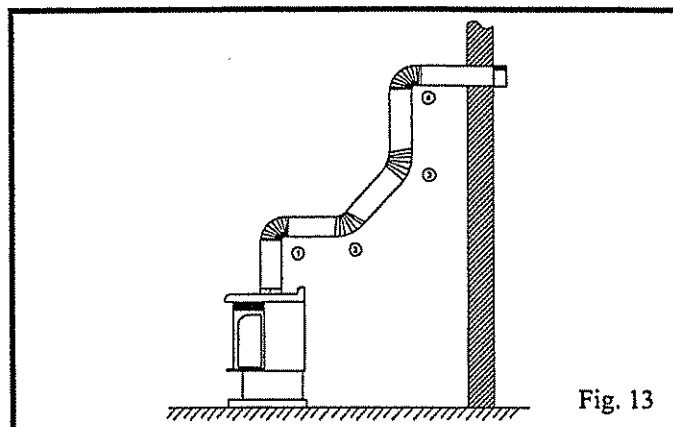
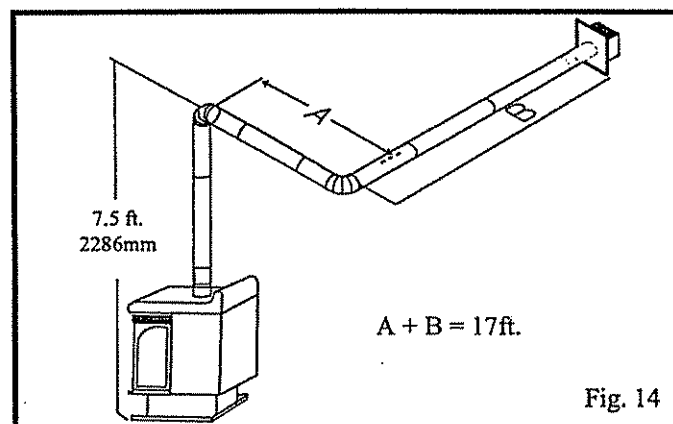
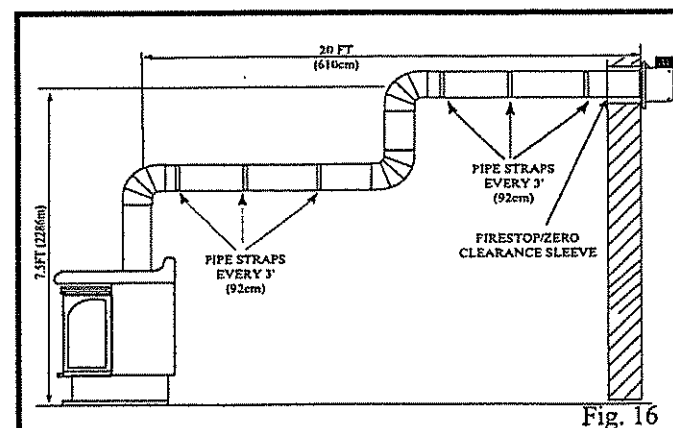

Fig. 13
Fig. 14
Fig. 16
- If a 90 degree elbow is used in the horizontal vent run (level height maintained) the maximum horizontal vent length is reduced by 36 inches, (Fig. 14). This does not apply if the 90 degree elbows are used to increase or redirect a vertical rise (Fig. 16).
**In Fig. 14 Dimension A plus B must not be greater than 17'.**
- The maximum number of 45 degree elbows permitted per side wall installation is two (2). These elbows can be installed in either the vertical or horizontal run.
- The maximum number of elbow degrees in a system is 270° (See Fig. 13).
Example: In Figure 13
**COMBUSTIBLE WALLS :** Cut a 9-3/8"H x 9-3/8"W (240 mm x 240 mm) hole through the exterior wall and frame as shown (Fig. 14).